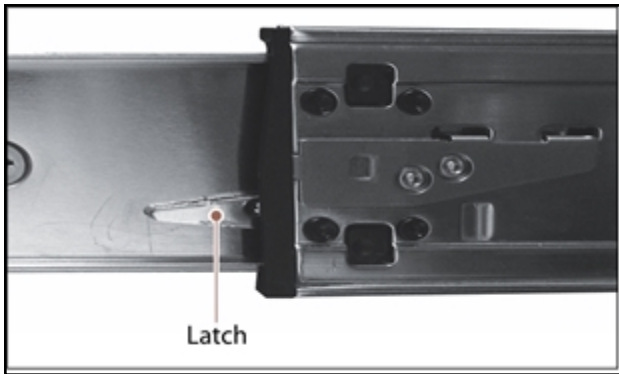

Figure 20 Self-locking latch.
3. Flip the rail assembly over so the outer rail is on top and the self-locking latch is facing you (see Figure 20).